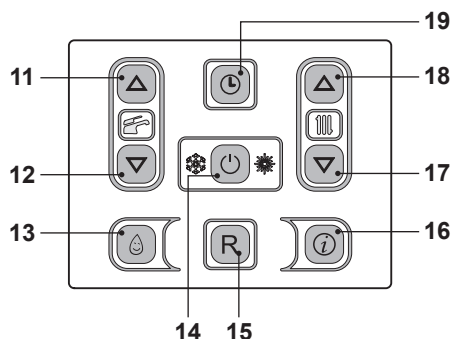
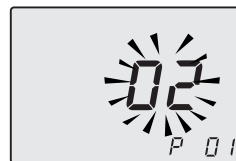

Fig. 7.24
Fig. 7.25
- Enter "programming mode" by holding down keys 14 - 17 - 18 together for 10 seconds (Fig. 7.24) until the LCD display indicates the letters **P01** and the value of the parameter, indicating entry in "parameter 01" (Fig. 7.25).
- By pressing key 14 (Fig. 7.24) confirmation of the inserted value is obtained.